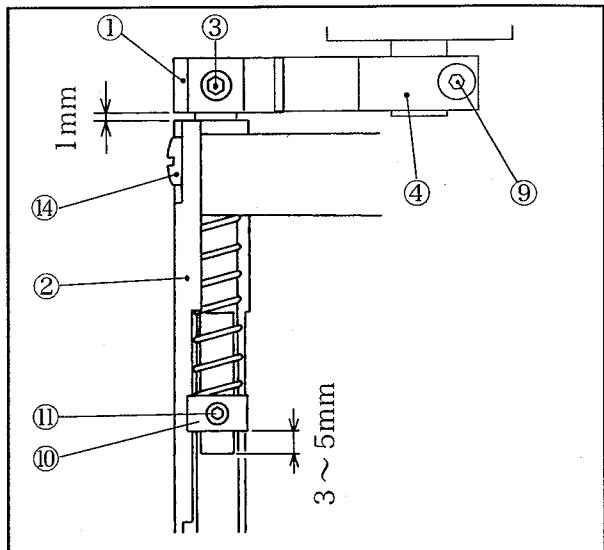

Fig.8
- 1) The position of collar⑩ should be 3 - 5 mm from the edge of flat place on upper knife's shaft when the upper knife⑦ and lower knife⑧ are engaged. After loosening the screw⑪, set the collar to the proper position. (Fig. 8)
- 4) Loosen the screw⑨ on the drive gear④ and adjust the upper knife⑦ so that its home position is at an angle of 80° on the upper side of lower knife⑧.(Fig. 8,10)